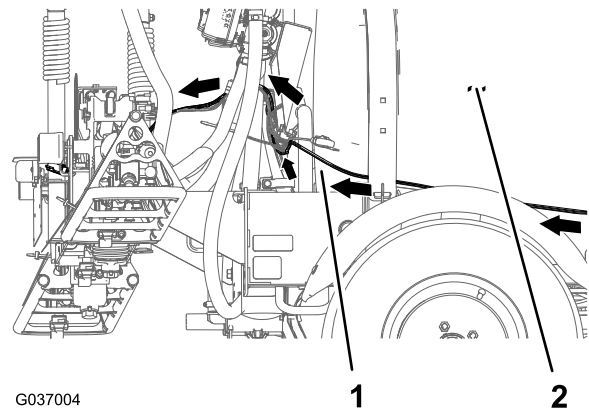

Figure 36
- 2. Route the wire harness along the right-frame channel adjacent to the tank (Figure 36).